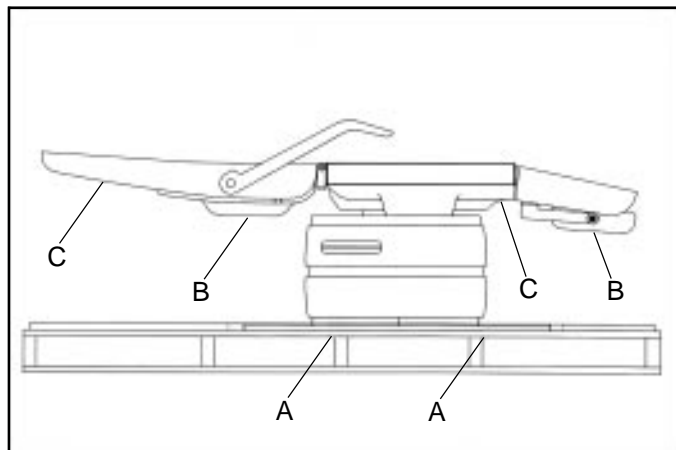

FIGURE 1
1. Do not lift at point "B", fig. 1. This is not a supported area. Lifting at this point could cause personal injury or damage to the table.
Do not lift at point "B", fig. 1. This is not a supported area. Lifting at this point could cause personal injury or damage to the table.